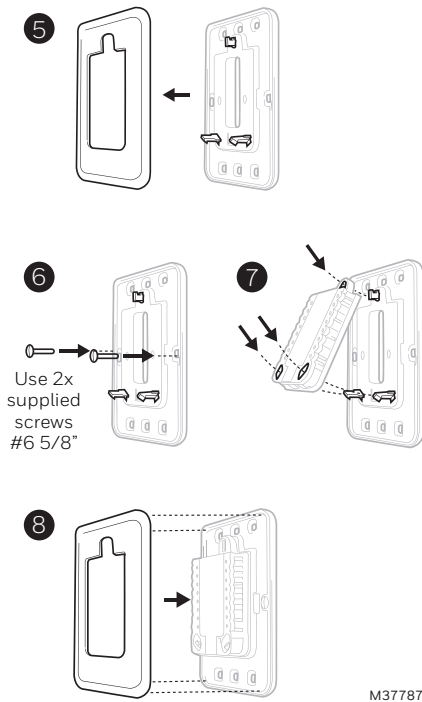

Fig. 11.
5. Separate the Junction Box Adapter from the Cover Plate. See Step 5 in Fig. 11.
6. Mount the Junction Box Adapter to the wall or an electrical box using any of the eight screw holes. Insert and tighten mounting screws supplied with Cover Plate Kit. Do not over-tighten. Make sure the Adapter Plate is level. See Step 6 in Fig. 11. Use 2x supplied screws #6 5/8".
7. Attach the UWP by hanging it on the top hook of the Junction Box Adapter and then snapping the bottom of the UWP in place. See Step 7 in Fig. 11.
8. Snap the Cover Plate onto the Junction Box Adapter. See Step 8 in Fig. 11.